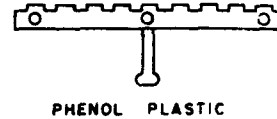

Fig. 14—318A Plug
2.13 318A: The 318A (Fig. 14) is a dummy plug consisting of two strips of insulating material with a handle. The 318A plug is used in opening ten lines. The plug is used with the 444-type jacks.